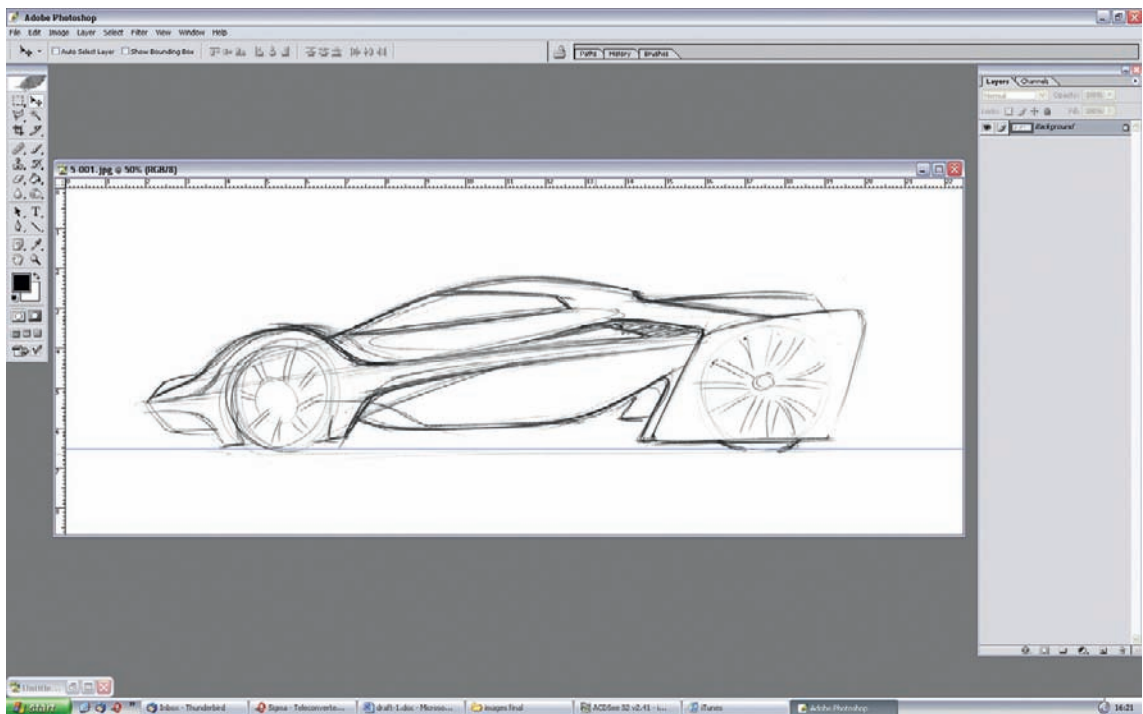

Figure 5.22
Make sure the sketch is level. You can position a guide over the Photoshop image by dragging from the ruler bar with the Move tool (V). If the rulers aren't visible, press Ctrl + R to toggle them (Figure 5.22).